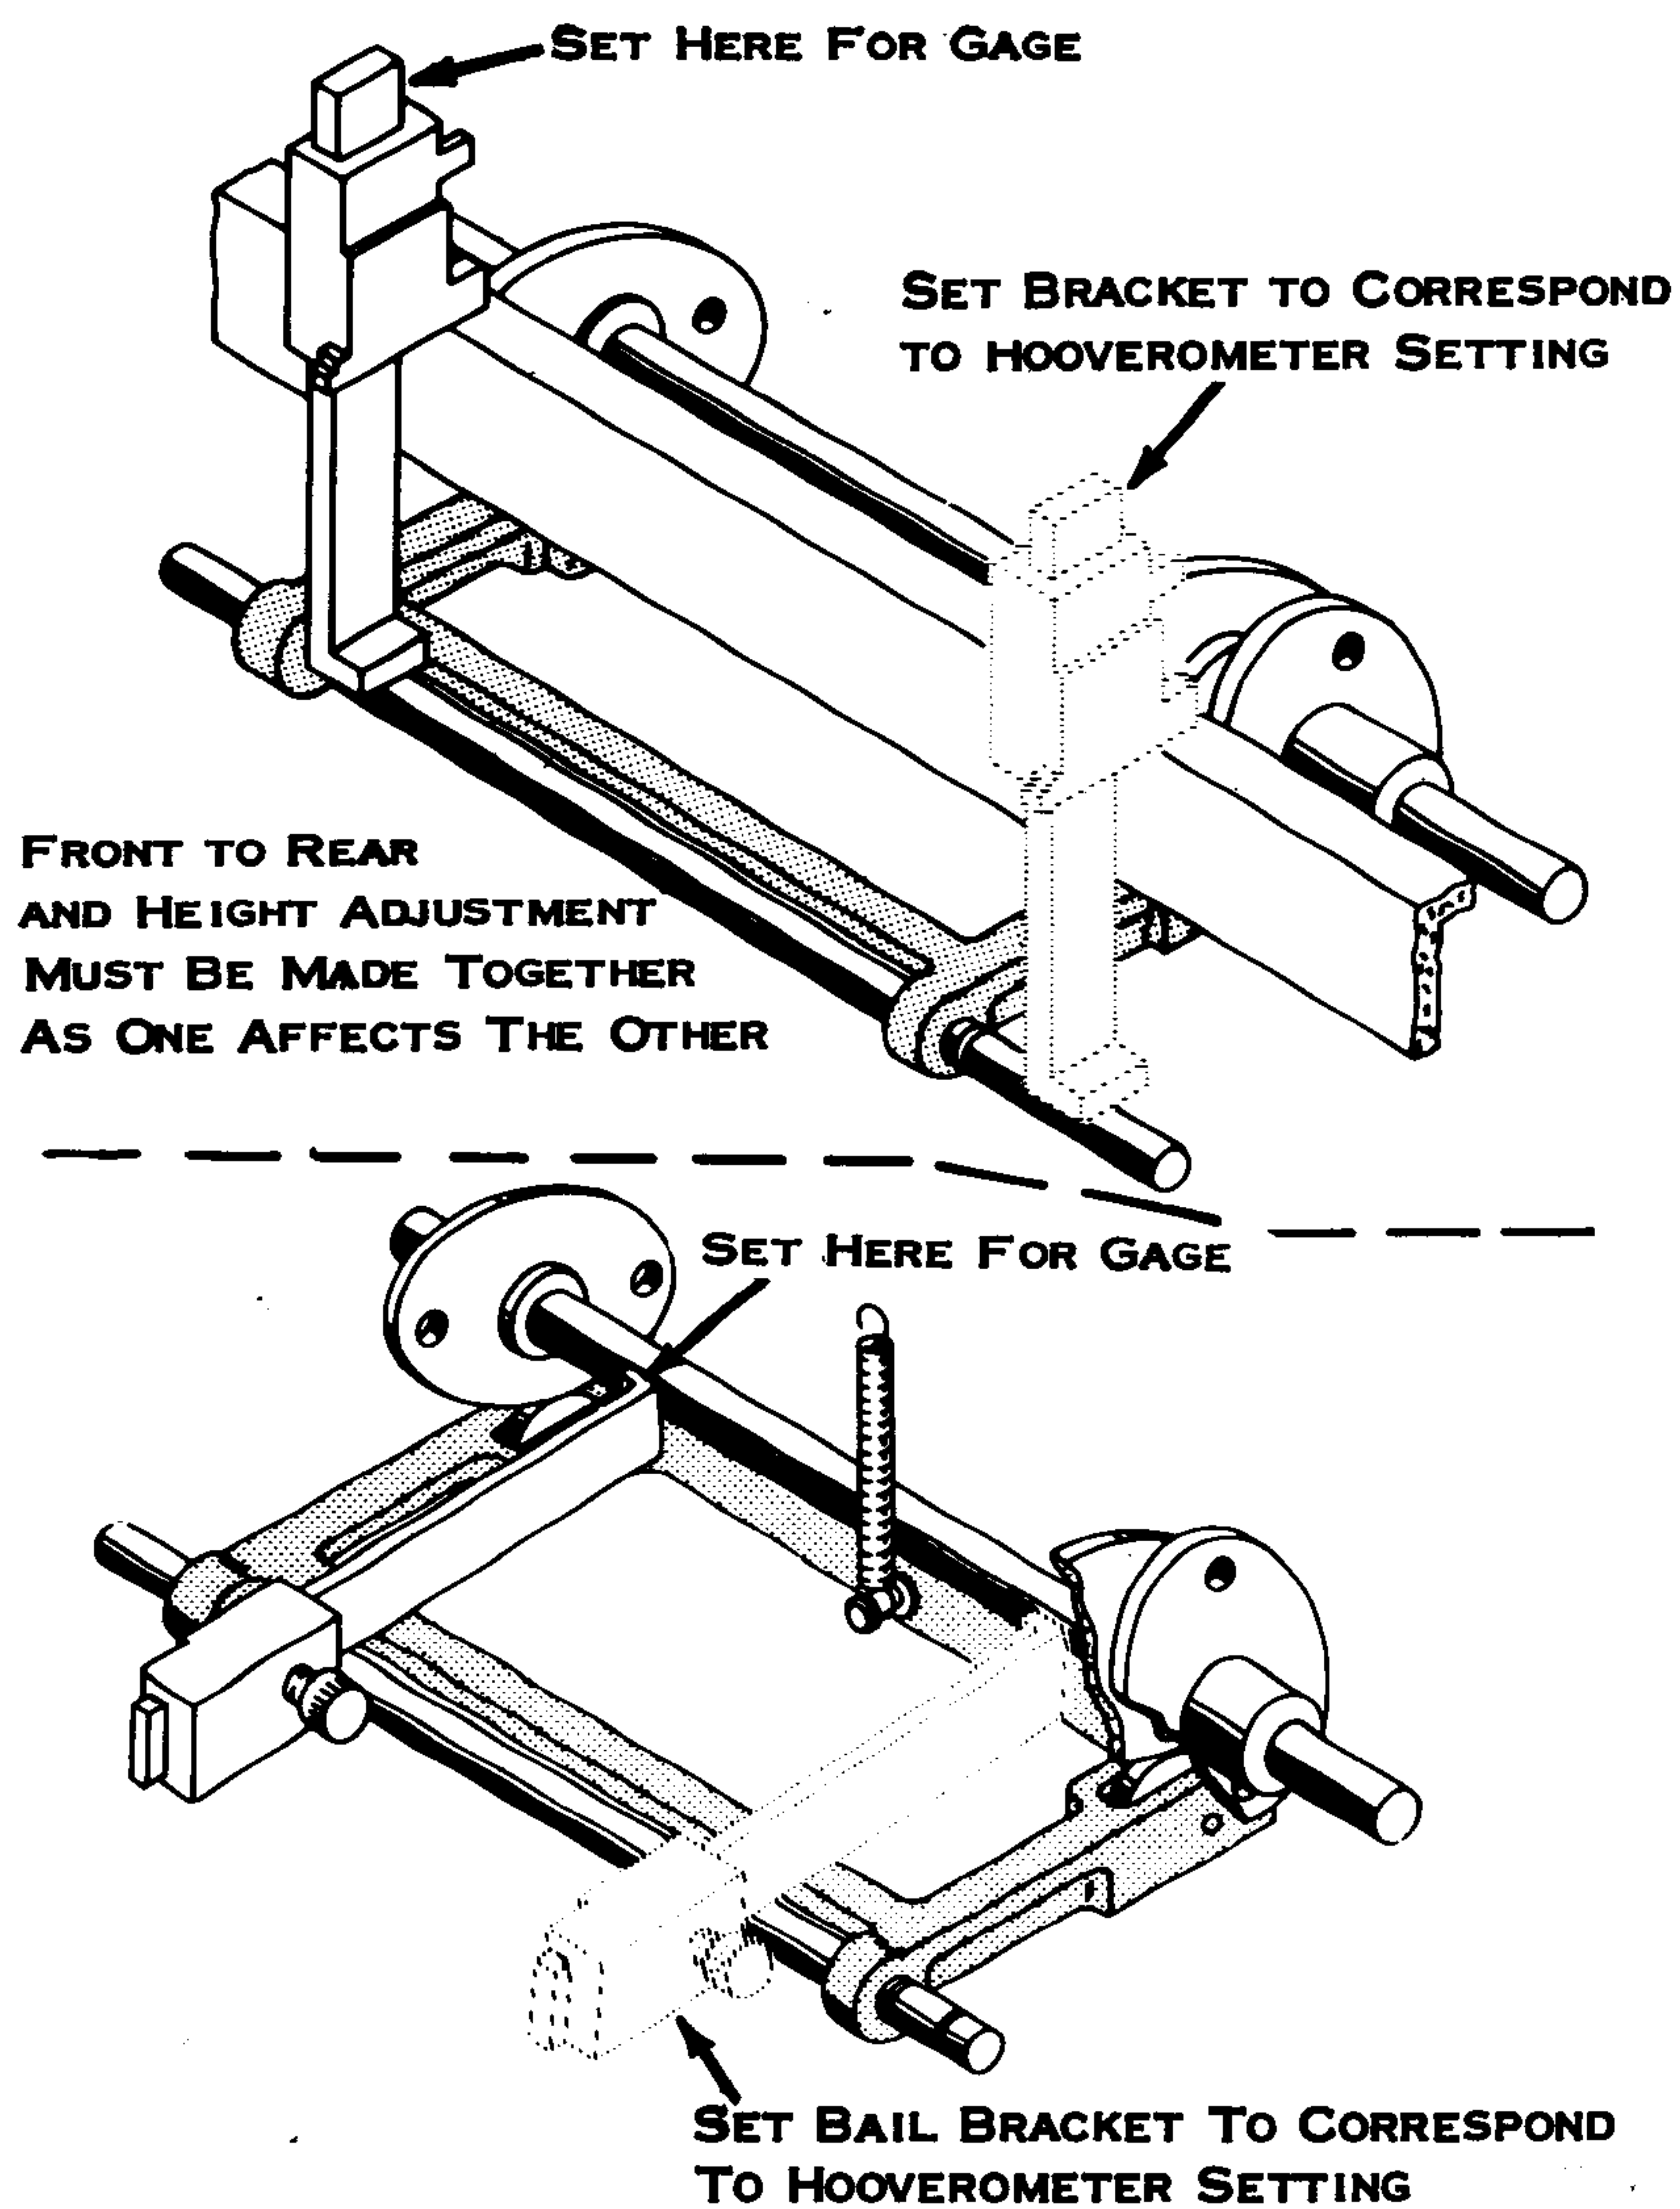

Figure 49. Latch Bail Shaft
1. Latch Bail Shaft - The plate that supports the right end of the bail shaft should be adjusted so that the bail shaft is parallel to the cycle shaft. Because the left end of the bail shaft is fixed, the right end may be adjusted by comparing its position to that of the left end with the use of the Hooverometer. The distance is gaged between the anvil and the bail shaft for height and between the cycle shaft and the bail shaft for front to rear. The positions of the Hooverometer are pointed out in Fig. 49. CAUTION - Both of these adjustments are made by the same plate; therefore, they must be considered together. They should be checked and refined alternately until both are correct. In addition, the cycle bail up-stop and the character interrupter must be readjusted after any change in the position of the bail shaft plate.